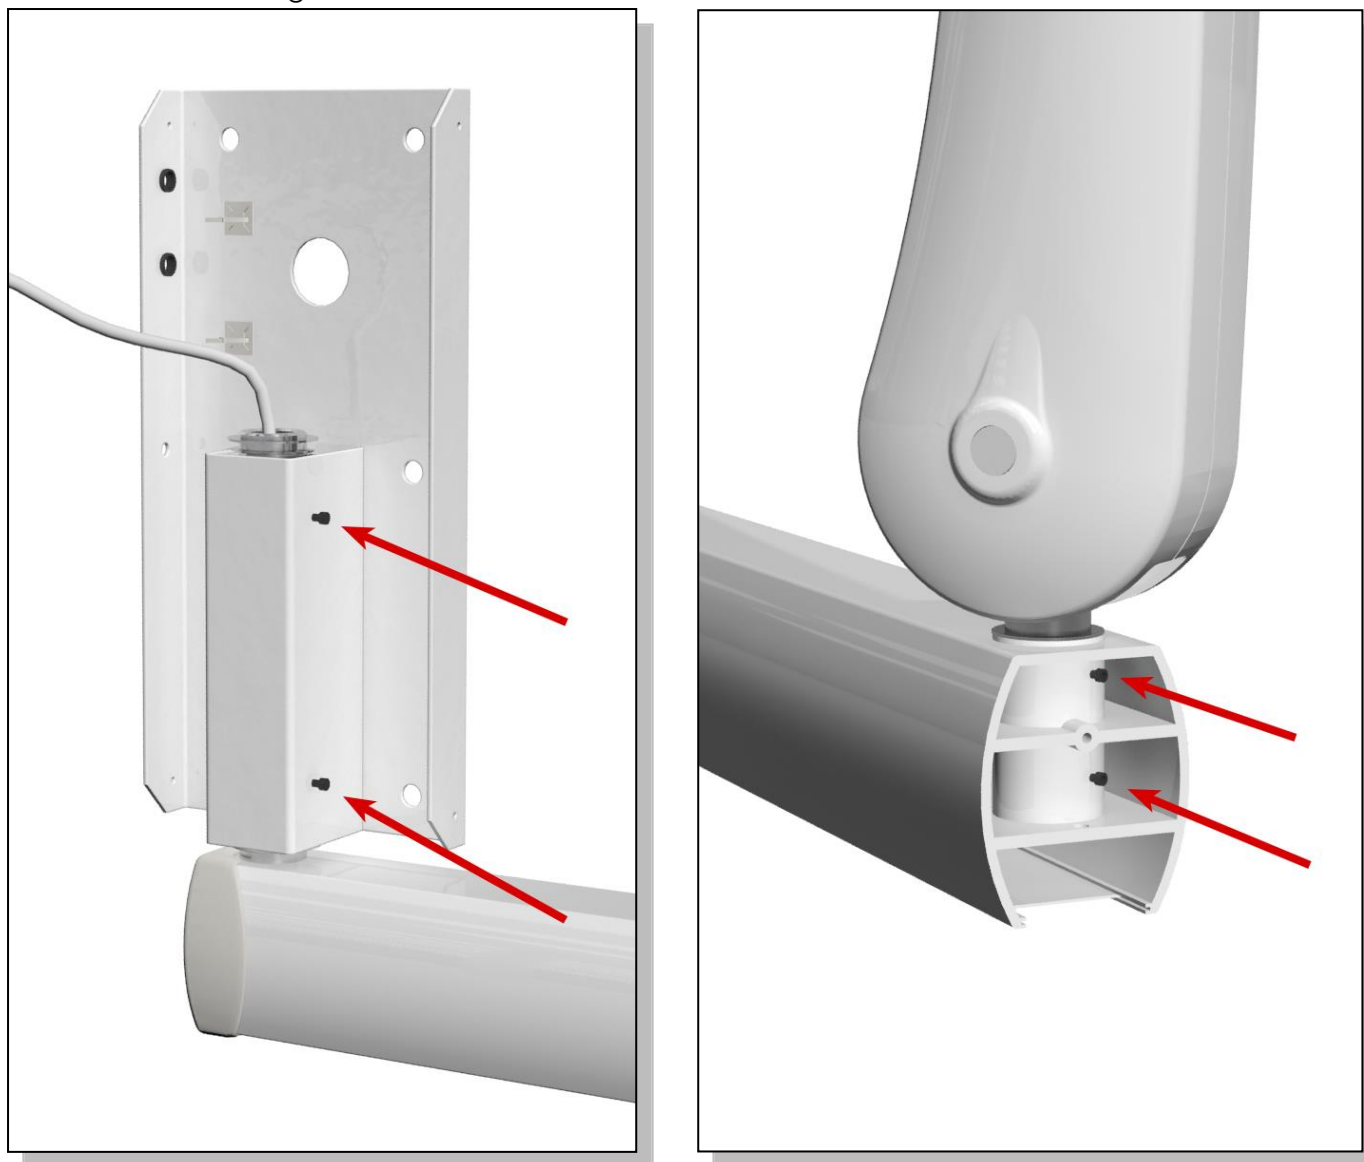

fig.10
- ✓ If necessary adjust the clutch screws of the wall plate **(A)** and the extension **(B)** as shown in fig.10